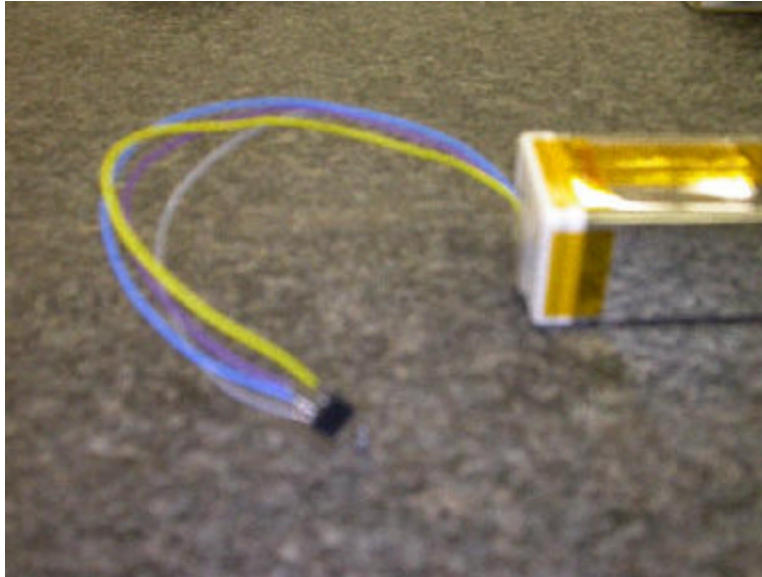

Figure 5.3-1 – PIN Diode Wire Termination
2. Verify that the terminators are connected to the PIN diode wires as shown in Figure 5.3-1.